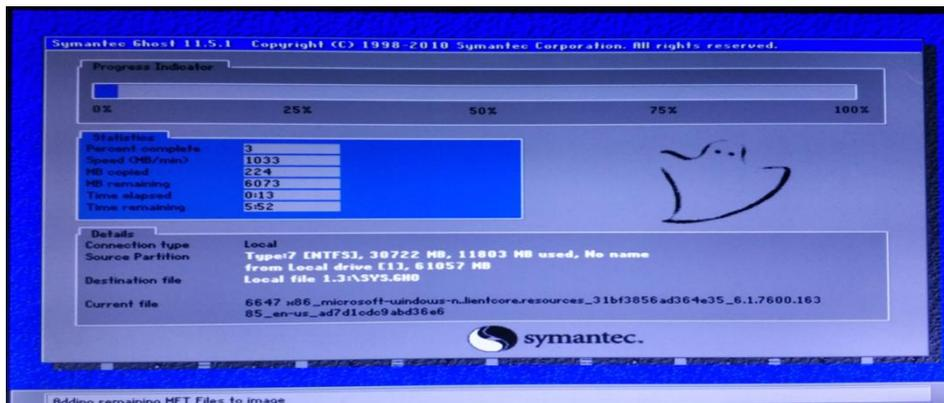

Figure 4 Backup interface
(3) From now on the system is being backed up (as show in figure 4) , The system will be automatically restarted after the backup is completed.